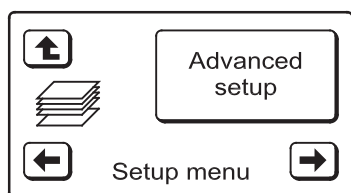

FIG. 69
2. Press the LEFT (←) button twice to display the screen shown in Figure 69.